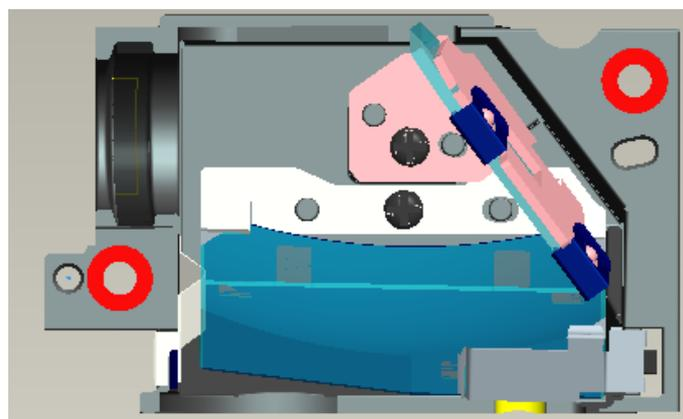

Fig. 6-7
- I. FM Module must be placed to fixed shaft and on the datum surface of “ILL SUB” and then lock with screw well (Fig. 6-7).